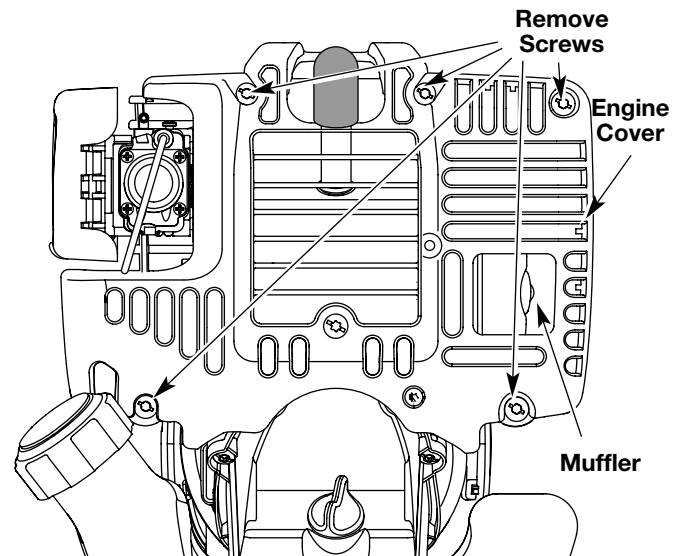

Fig. 35
1. Remove the five (5) screws on back of the engine cover with a Flat-head or T-20 Torx screwdriver (Fig. 35).
5. Remove the engine cover (Fig. 35 & 36).